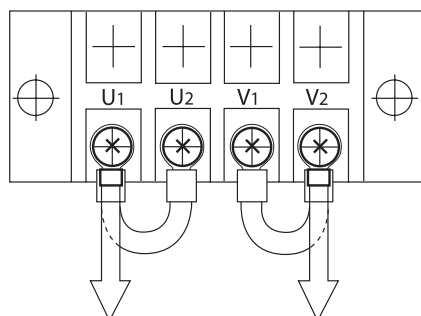

Figure 21: Output Terminal Board, 120 Volt Output
- Connect U1 to U2 and V1 to V2 on the output terminal board (Figure 21). Connect 120 volt output leads to terminals U1 and V2.